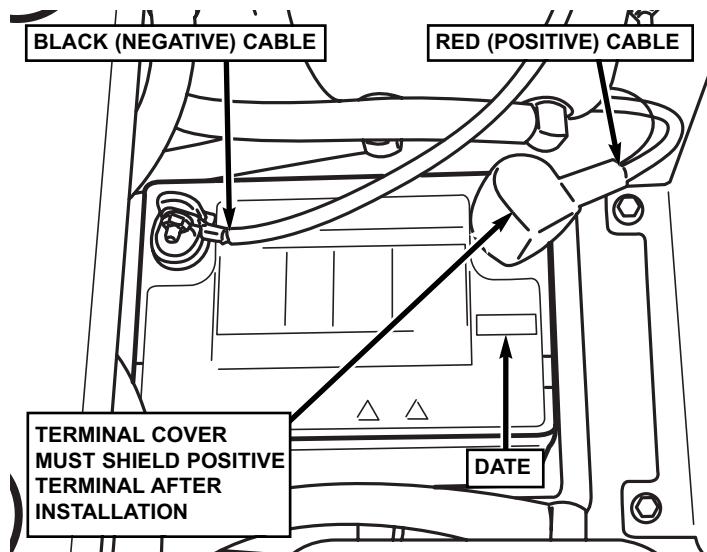

FIGURE 5
STEP 6: Check date on battery label. See Figure 5. If battery is placed into service after date shown on label, battery will have to be charged:
STEP 8: Both bolts are already installed on both terminals. Connect positive (+) cable (red) first, from wiring harness to positive terminal (+) on battery and secure with nut provided in hardware bag. Connect negative (-) cable (black) last, to negative terminal (-) on battery and secure with nut also provided. See Figure 5. Apply a small amount of grease over terminals to prevent corrosion.